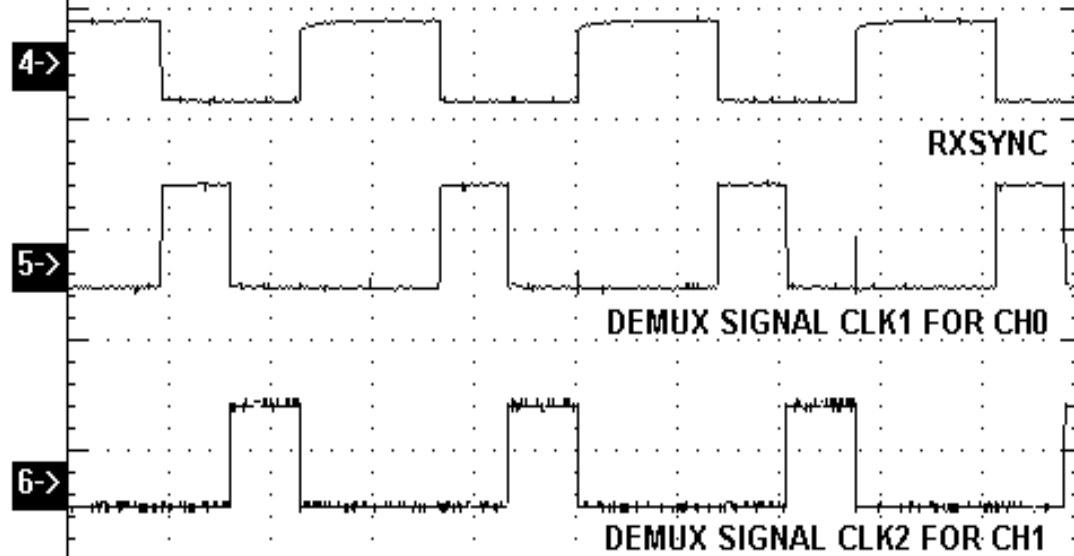

FIG.1.4 WAVEFORMS FOR RX TIMING
10. Observe the integrator output test point. It can be observe that as the clock rate is increased amplitude of triangular waveform decreases. This is called minimum step size. These waveforms are as shown in figure 1.4. Then increase the amplitude of 250Hz sine wave upto 0.5V. Signal approximating 250Hz is available at the integrator output. This signal is obtained by integrating the digital output resulting from Delta modulation.
Observe the following signal on oscilloscope and plot it on the paper. (Fig. 1.4 & Fig.1.5)